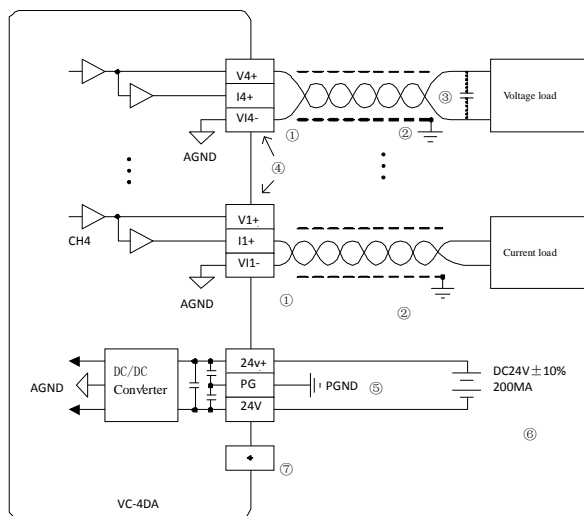

Figure 1-5 Wiring diagram for VC-4DA user terminals
For user terminal wiring requirements, please refer to Figure 1-5. when wiring, please pay attention to the following 7 aspects.
- Check that the wiring is accurate, refer to Figure 1-5.